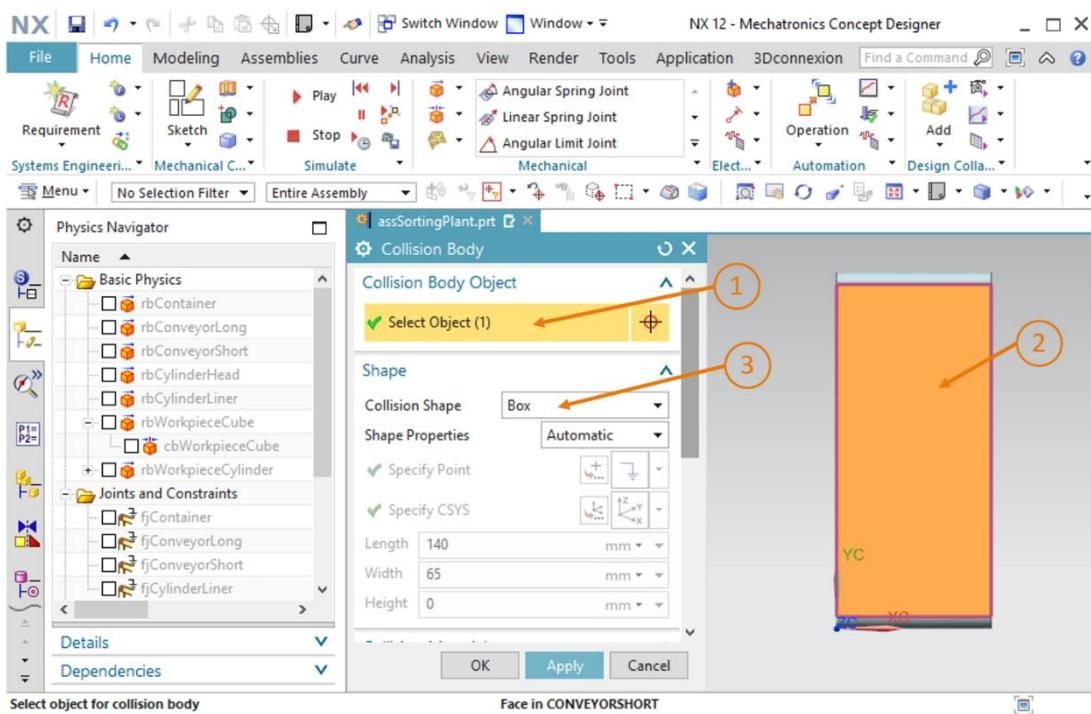

Figure 27: Creating a collision body for the planar surface of conveyorShort
- Begin by defining a collision body for the planar transport surface. The procedure is very similar to that described in Chapter 7.4.1. Open the "Collision Body" command. Navigate in the "Collision Body" command window to the "Collision Body Object" group and click the "Select Object" button (see Figure 27, step 1). Select the **top planar transport surface** in the three-dimensional graphics window (see Figure 27, step 2). Select "Box" as the collision shape, as shown in Figure 27, step 3. Leave the default values for the remaining settings as described in Chapter 7.4.1. Finish by assigning the name "**cbConveyorShortPlane**" for this collision body and confirm the settings by clicking the "OK" button.